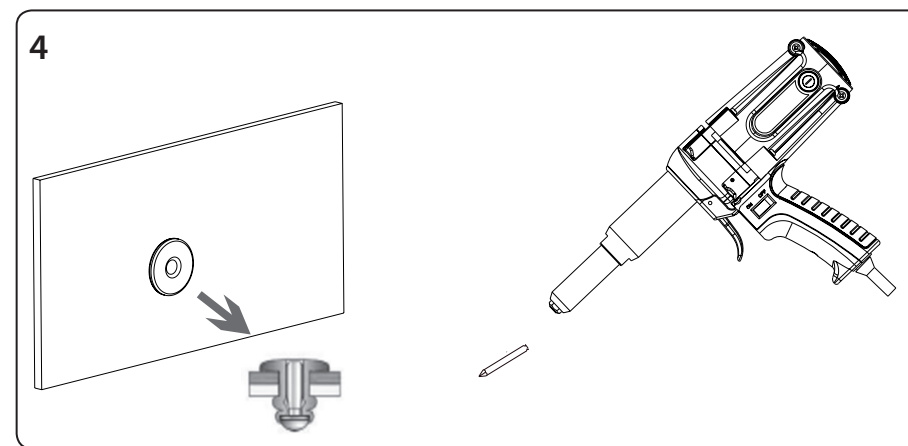

Fig.6
d) When the trigger of the rivet gun is released, the rivet will be pulled and the mandrel of the rivet will be torn off and the rivet will be released from the barrel of the gun, see step 4, fig.6.